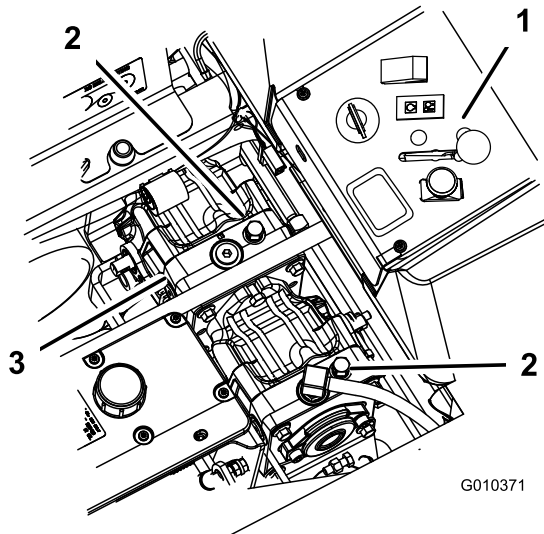

Figure 35
3. Rotate the bypass valves counterclockwise 1 turn to push (Figure 35).
Rotate the bypass valves clockwise 1 turn to operate machine (Figure 35).